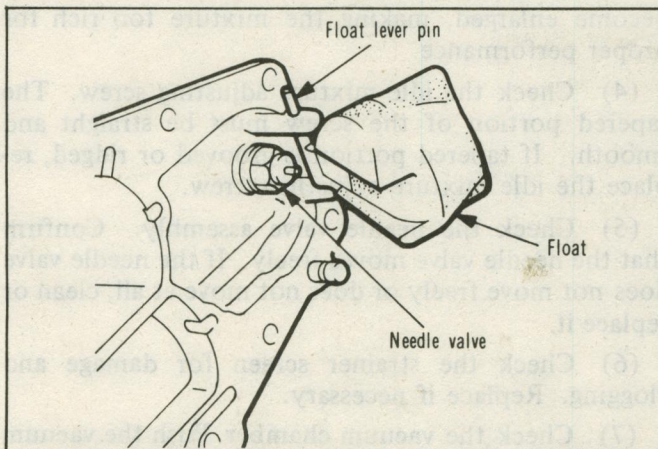

Fig. 25 Removing Float
(10) Remove the float lever pin and the float. (Fig. 25)